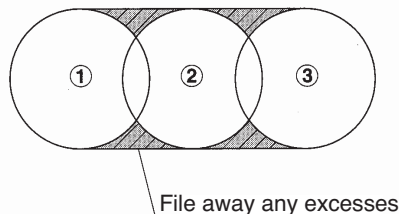

Fig. 30
Drill oblong hole in the order of ①, ②, ③. For the steps ② and ③, take care so that the cutter may not be fed into the workpiece with too much force. Spacing between each step of drilling operations should be so arranged that the Pilot Pin will always hit the material yet to be machined. (Fig.30)